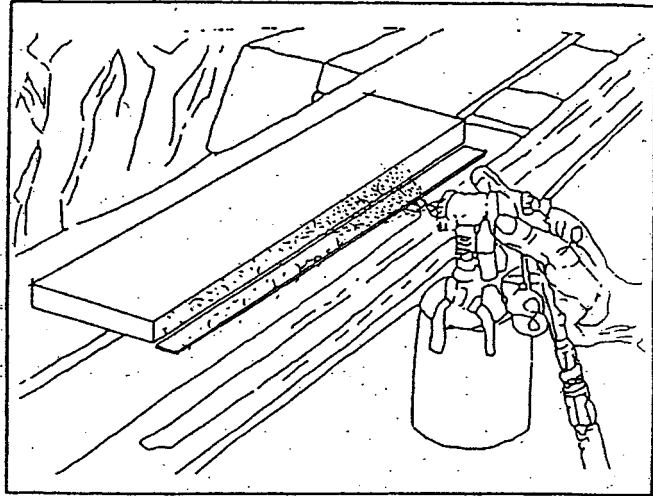

Figure 3
- Apply adhesive to the edge strip material and to the substrate edges. Allow overhang on all edges. See Figure 3.